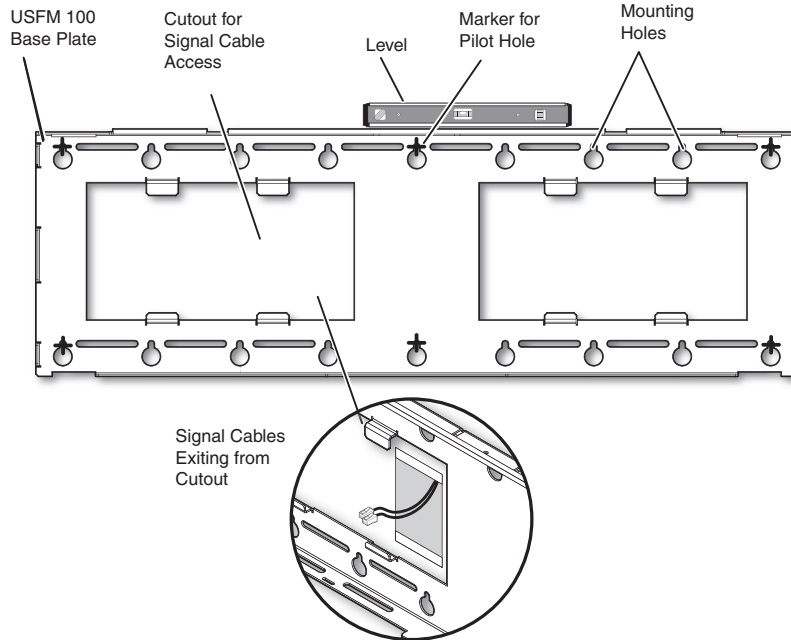

Figure 2. Wall Mounting Features
- Hold and level the base plate against the wall. Mark a minimum of four positions (two top, two bottom) using either the mounting slots or the keyholes (slots uppermost) that are on the stud lines (see the + marks in figure 2). Where applicable, mark the mounting holes on the wall for drywall toggles.
- c. If the cables are to be run behind the wall to the USFM 100 location, mark the cutout area on the wall large enough for signal cables (see inset in figure 2).